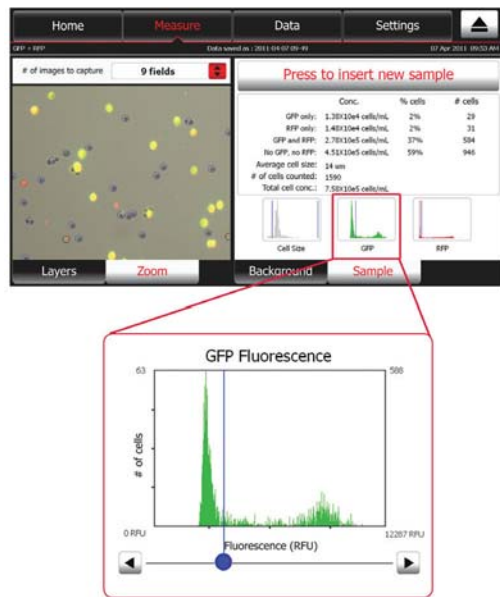

Figure 1. Simultaneous analysis of GFP- and RFP-expressing cells.
- Identification of GFP- and/or RFP-positive cells (Figure 1)